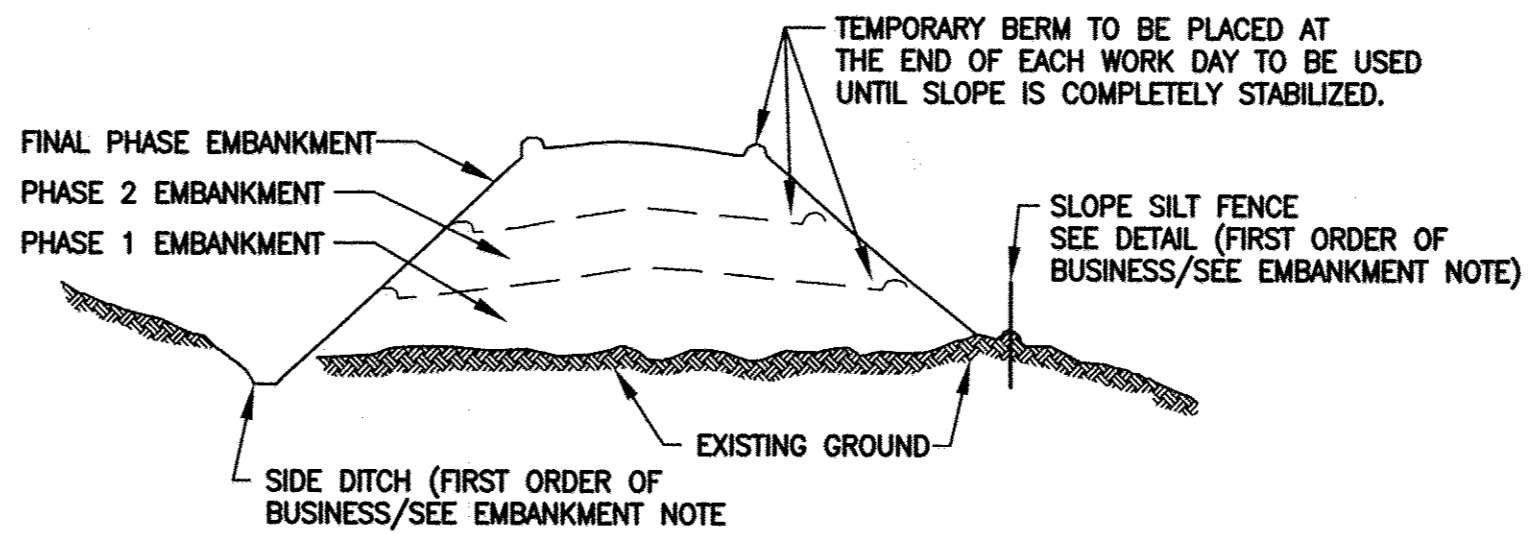

FIGURE 5: INCREMENTAL STABILIZATION - FILL
- CONSTRUCTION SEQUENCE: REFER TO FIGURE 5 (BELOW).
- EXCAVATE AND STABILIZE ALL TEMPORARY SWALES, SIDE DITCHES, OR BERMS THAT WILL BE USED TO DIVERT RUNOFF AROUND THE FILL. CONSTRUCT SLOPE SILT FENCE ON LOW SIDE OF FILL AS SHOWN IN FIGURE 5, UNLESS OTHER METHODS SHOWN ON THE PLANS ADDRESS THIS AREA.
- SELECT ONE OR MORE OF THE SPECIES OR MIXTURES LISTED IN TABLE 26 FOR APPROPRIATE PLANT HARDINESS ZONE (FROM FIGURE 5) AND ENTER THEM IN THE TEMPORARY SEEDING SUMMARY BELOW, ALONG WITH APPLICATION RATES, SEEDING DATES, AND SEEDING DEPTHS. IF THIS SUMMARY IS NOT PUT ON THE PLANS AND COMPLETED, THEN TABLE 26 MUST BE PUT ON THE PLANS.
- SELECT ONE OR MORE OF THE SPECIES OR MIXTURES LISTED IN TABLE 25 FOR THE APPROPRIATE PLANT HARDINESS ZONE (FROM FIGURE 5) AND ENTER THEM IN THE PERMANENT SEEDING SUMMARY BELOW, ALONG WITH APPLICATION RATES AND SEEDING DATES. SEEDING DEPTHS CAN BE ESTIMATED USING TABLE 26. IF THIS SUMMARY IS NOT PUT ON THE CONSTRUCTION PLANS AND COMPLETED, THEN TABLE 25 MUST BE PUT ON THE PLANS. ADDITIONAL PLANTING SPECIFICATIONS FOR EXCEPTIONAL SITES SUCH AS SHORELINES, STREAMBANKS, OR DUNES OR FOR SPECIAL PURPOSES SUCH AS WILDLIFE OR AESTHETIC TREATMENT MAY BE FOUND IN USDA-SCS FIELD OFFICE TECHNICAL GUIDE, SECTION 342 - CRITICAL AREA PLANTING. FOR SPECIAL LAWN MAINTENANCE AREAS, SEE SECTIONS IV SOD AND V TURFGRASS.